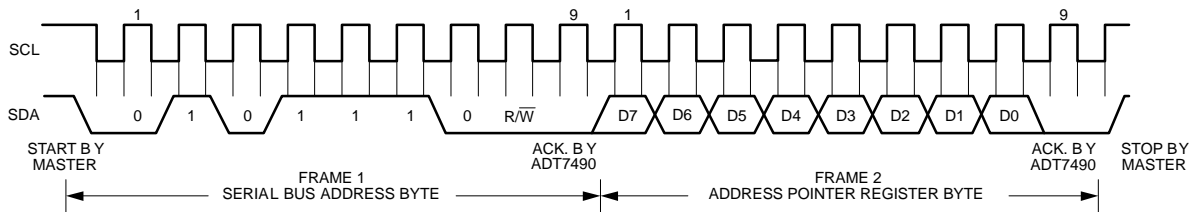
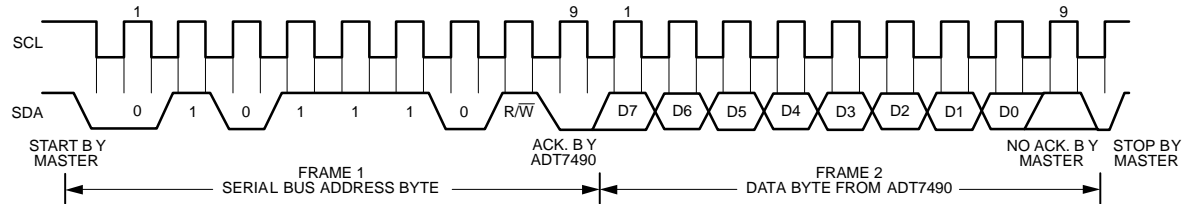

Figure 5. Writing to the Address Pointer Register Only
Figure 6. Reading Data from a Previously Selected Register
- If the NCT7491 address pointer register value is unknown or not the desired value, it must first be set to the correct value before data can be read from the desired data register. This is done by performing a write to the NCT7491 as before, but only the data byte containing the register address is sent because no data is written to the register. This is shown in Figure 5. A read operation is then performed consisting of the serial bus address, R/W bit set to 1, followed by the data byte read from the data register. This is shown in Figure 6.
- If the address pointer register is known to be already at the desired address, data can be read from the corresponding data register without first writing to the address pointer register, as shown in Figure 6.